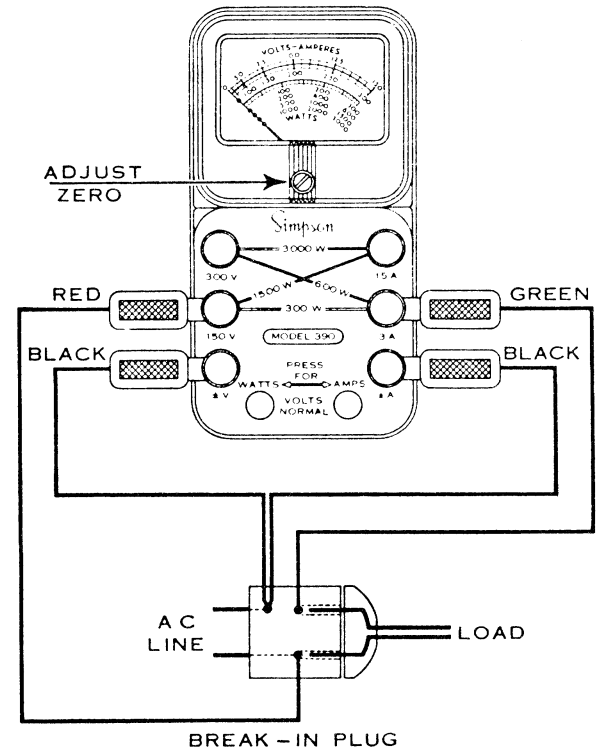
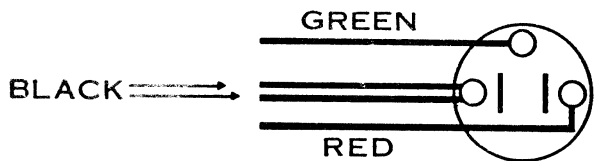

Figure 2. Model 390 Volt-Amp-Wattmeter--Method of Connecting Break-in Plug for 150V, 3A and 300W Ranges
Figure 8. Bottom View of Break-in Plug, Showing Cable Connections.
**ZERO ADJUSTMENT:** Be sure that the pointer is on zero before taking any readings. If the pointer is off zero, adjust the setting by means of the slotted screw located in the phenolic case directly below the meter scale as shown in Figure 2. Use a small screwdriver to turn this adjustment slowly to the right or left until the pointer is directly over the zero point on the scale. Occasionally a static charge may accumulate on the meter glass and attract the pointer. This can be discharged by breathing on glass.
a. Connect the leads from the break-in plug according to color as shown in Figure 2. In order to use the 150V range connect the red lead to the terminal marked 150V as shown. The red lead should be connected to the terminal marked 300V, when the 300V range is to be used. For easy identification, the 150V and 300V terminals have a red dot in the centers and the 3A and 15A terminals have a green dot in the centers to correspond to the colors of the leads from the break-in plug.
a. Connect the leads from the break-in plug according to color as shown in Figure 2. In order to use the 3A range connect the green lead to the terminal marked "3A" as shown. When the 15A range is to be used, connect the green lead to the terminal marked "15A"
c. Plug the appliance to be checked into the break-in plug as shown in Figure 2.
a. Connect the leads from the break-in plug according to their color as shown in Figure 2. When the green lead is connected to the 3A terminal and the red lead is connected to the 150V terminal as
a. Connect the red lead from the break-in plug to the 300V terminal. Connect the black leads to the  $\pm V$  and  $\pm A$  terminals as shown in Figure 2. When the green lead is connected to the 3A terminal, the line on the panel between the 300V and 3A terminals indicates that the 600 watt range is being used. When the green wire is connected to the 15A terminal, the range is 3000 watts as indicated by the line on the panel connecting the 300V and 15A terminals.
In cases where it is not convenient to use the break-in plug for checking power, four wires or test leads can be used. For line voltages up to 150, connect the  $\pm V$  and 150V terminals across the line and the  $\pm A$  and 3A or 15A terminals in series with the load for the 300 and 1500 watt ranges respectively. A study of Figure 2 will make these connections clear.
The special break-in plug supplied permits connection across the line for voltage measurements and in series with the load for current measurements. These connections are clearly shown in Figures 2 and 6. Figure 8 shows the connections of the cable to the plug.